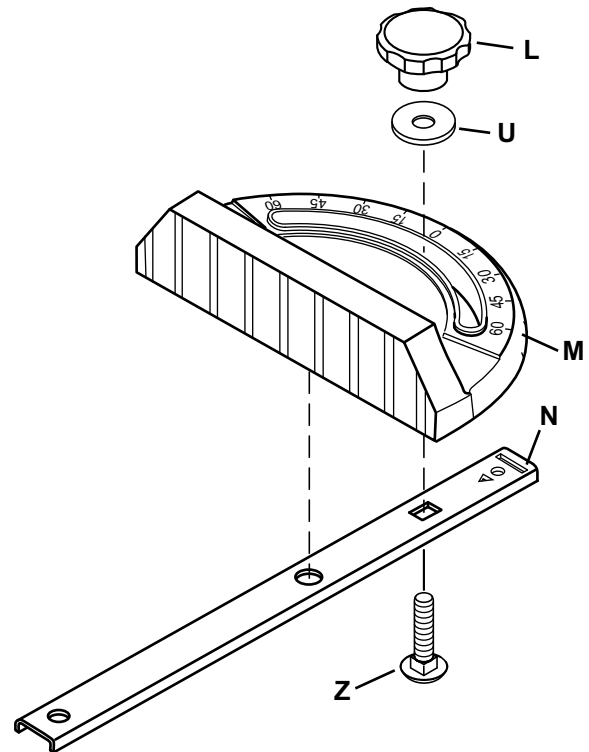

Figure 7
3. Assemble miter guide head (**M**) and miter bar (**N**) with carriage bolt (**Z**), washer (**U**), and knob (**L**). See Figure 7.